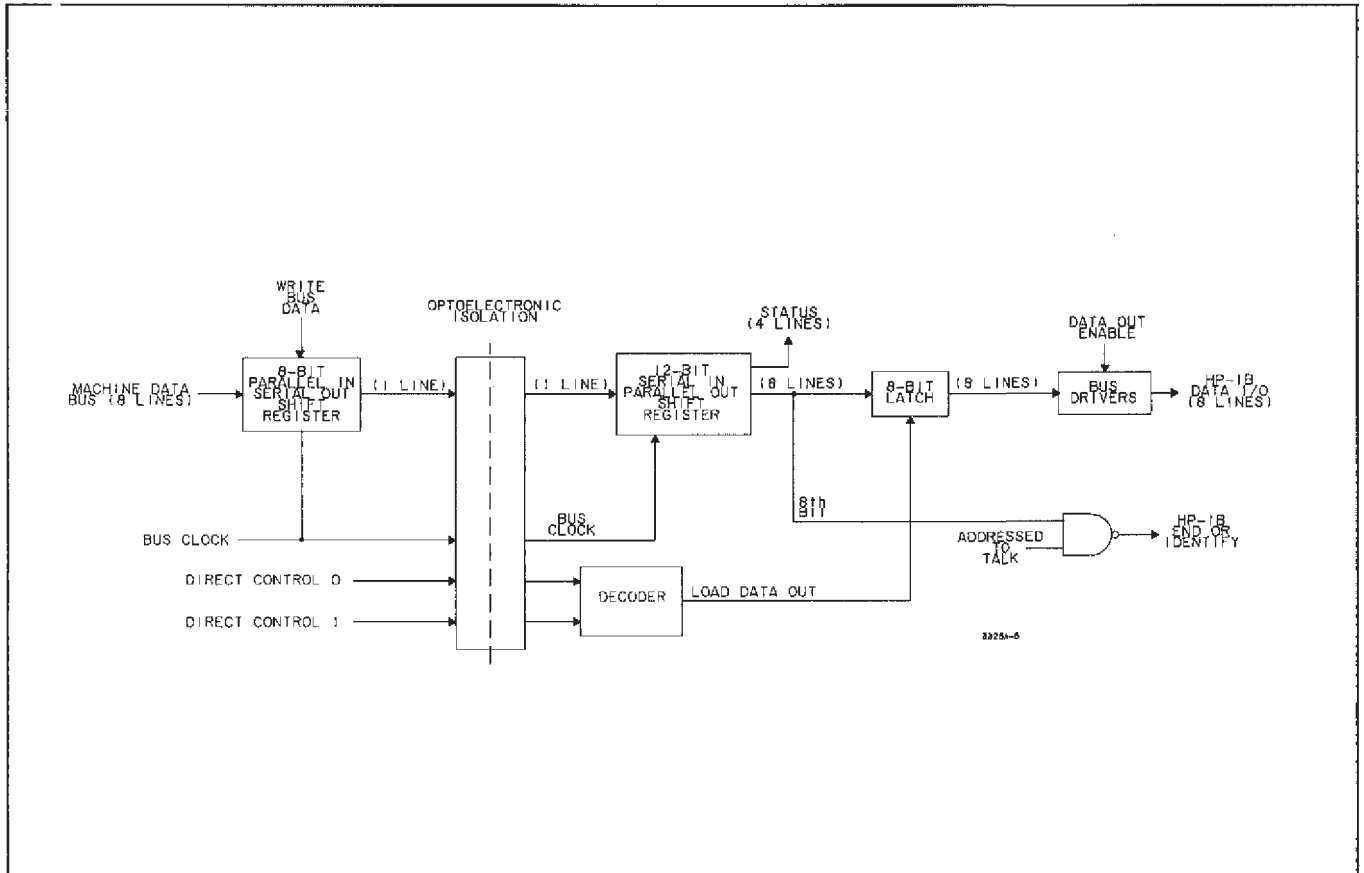

Figure 8-5. HP-IB Data Output Path.
**8-14. Data Output.** The output data path, shown in Figure 8-5, is essentially the reverse of the input data path. Parallel data from the Machine Data Bus is loaded into a parallel-in/serial-out shift register by the Write Bus Data signal. It is then shifted serially across the isolation barrier and into the same 12-bit shift register used for input data. However, for output data it is used as a serial-in/parallel-out register. The data is then loaded into an 8-bit latch by the Load Data Out signal, where it is available to the Bus Drivers. When the Bus Drivers are enabled by the Data Out Enable signal, the data is inverted and placed on the HP—IB DIO lines. The eighth (most significant) data bit becomes the End or Identify